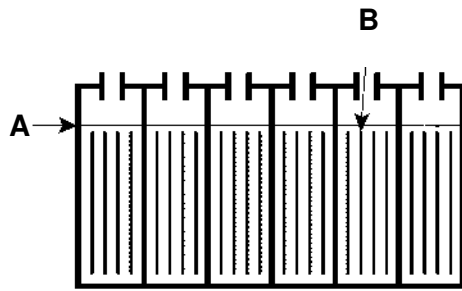

FIG. 21
4. Check fluid level (A) in each battery cell. Do not charge batteries unless fluid is slightly covering battery plates (B). If needed, add just enough distilled water to slightly cover plates. DO NOT overfill. Batteries can overflow during charging due to expansion. Replace cell caps before charging (Figure 21).